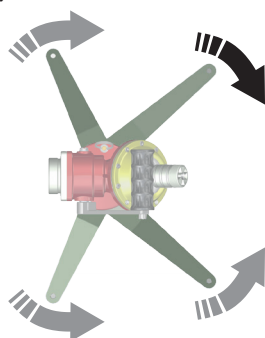

Fig. 1
- **1** - Fold out the stabilizing legs by holding the monitor with the carrying handle. Pull on a long stabilizing leg, the others unfold in fan up to the "CLIC" (Fig. 1).